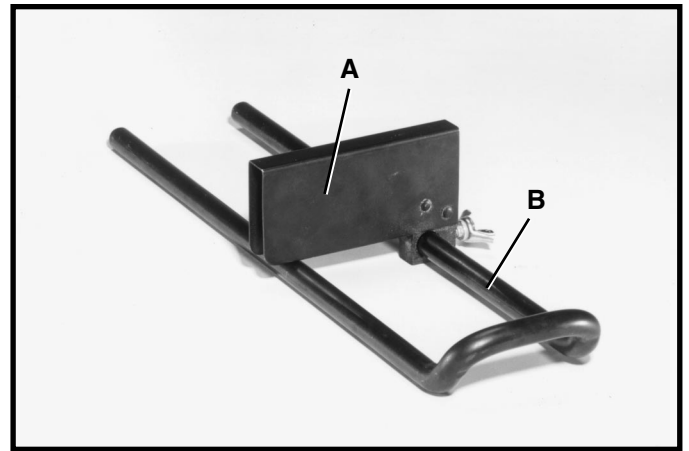

Fig. 5
1. Decide on which side of the saw table you want the stock stop (A) Fig. 5, to be, and assemble stock stop (A) onto table extension (B), as shown. **NOTE:** The most commonly used position of the stock stop will be on the right hand table extension, as shown.